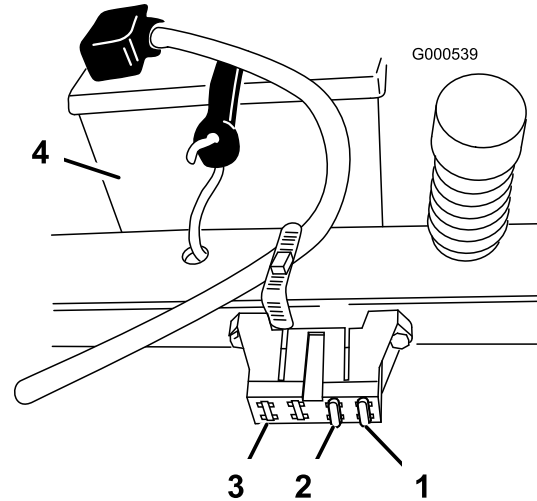

Figure 35
1. Raise the seat to gain access to the fuse holder (Figure 35).
2. To replace a fuse, pull out on the fuse to remove it (Figure 35).